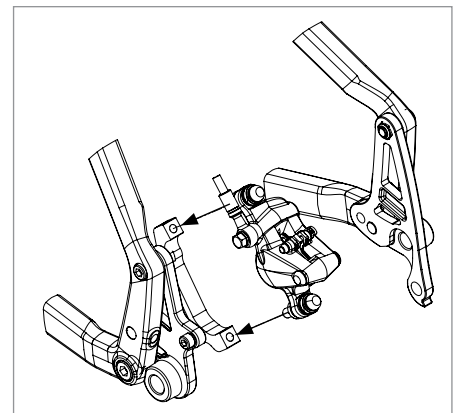

Figure 3
7. Using a torque wrench tighten both the right and left side lower fixing bolts (F) to 10Nm each.
8. Using a torque wrench tighten both the right and left upper pivot bolts (C) and (E) to 8Nm each.
9. Using a torque wrench tighten the lower I.S. brake adapter bolt (G) to the manufacturer's specification, if none is given, torque to 8Nm.
10. The fixed-position dropouts are now properly installed on the frame and should resemble approximately what is shown in Figure 3 (rear wheel and axle omitted for clarity). Proceed to install and adjust the rear brake per the brake manufacturer's instructions.